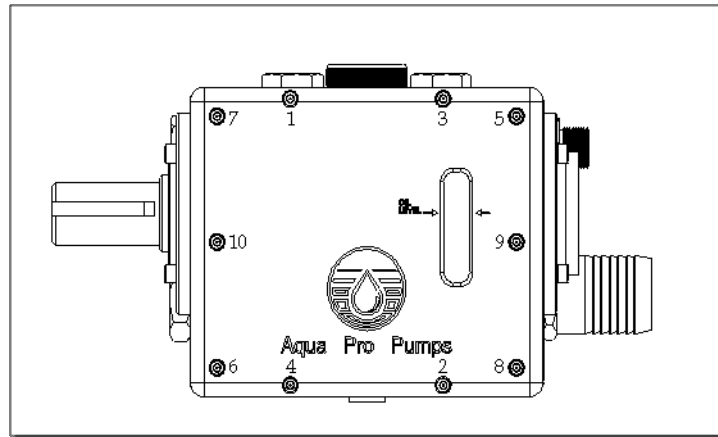

Fig. 7: Bolt tightening sequence
Install the sight glass (21) and the sight glass frame (22). Apply Red Loctite # 262 to the 6 sight glass retaining screws (23) and tighten. Reinstall the crankcase cover(19) and tighten the 10 crankcase cover screws (24) with the 3/16" Allen wrench in the sequence shown in Fig. 7.